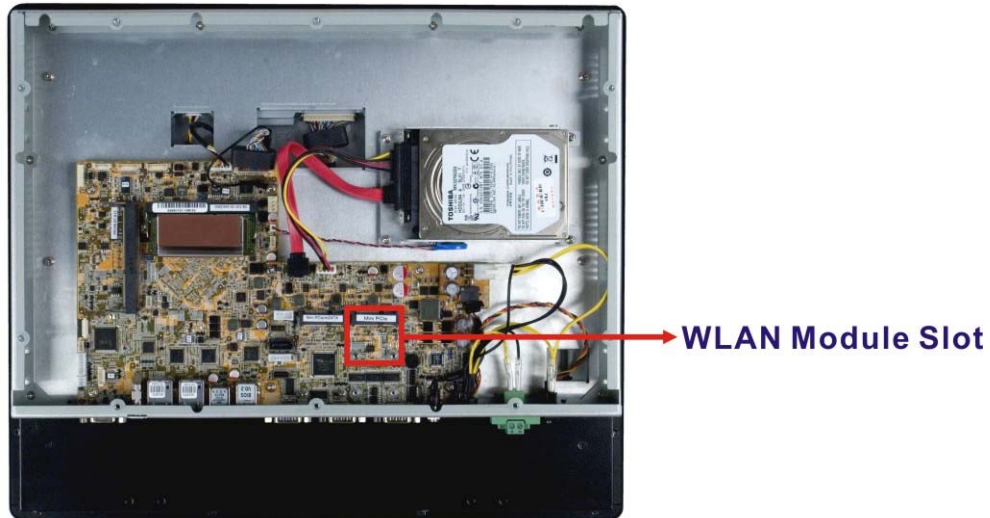

Figure 3-16: PCIe Mini Slot Location
Step 3: Locate the PCIe Mini slot (Figure 3-16).